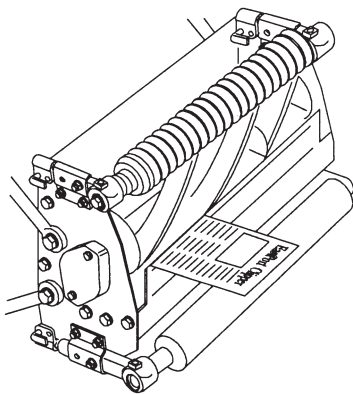

Figure 4
2. Set the cutting unit as shown in Figure 4. Do not rest the cutting unit on the bedknife adjusting knob as this will affect the reel-to-bedknife clearance. Place a block of wood under the round cross tube to hold the adjustment knob above the surface.
4. Insert a long strip of dry newspaper between the reel and the bedknife (Fig. 4) at either end of the bedknife, and rotate the reel by hand. The paper should be cleanly cut. Repeat this procedure at other end of the reel. If the paper does not cut cleanly, tighten the bedknife adjusting knob a maximum of two clicks and check to see if paper is cut cleanly. If it is not, go to the next step.